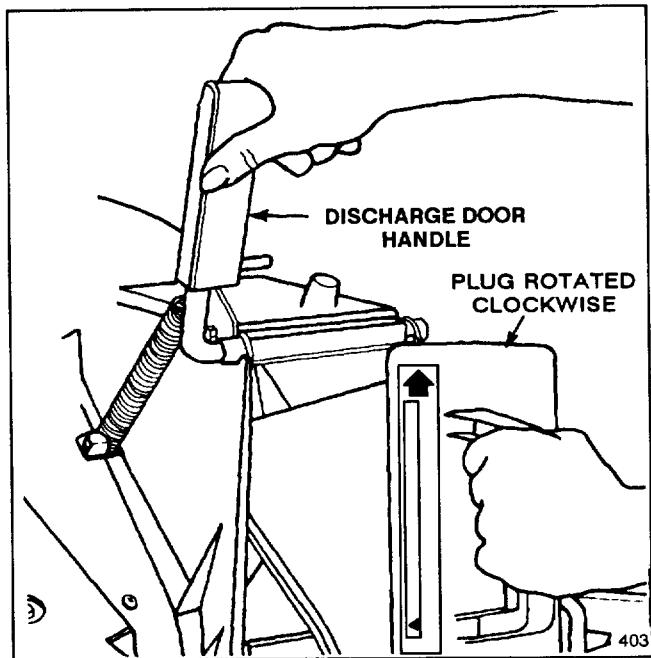

Figure 6
2. Since the plug is slightly wider than the discharge tunnel opening, rotate the plug clockwise slightly while inserting it (Fig. 6). Make sure the arrow on the plug decal is pointing upwards.
1. Open the discharge door by pulling forward on the handle and moving it rearwards (Fig. 6). Hold the discharge door handle to prevent the spring-loaded door from closing while inserting the plug.